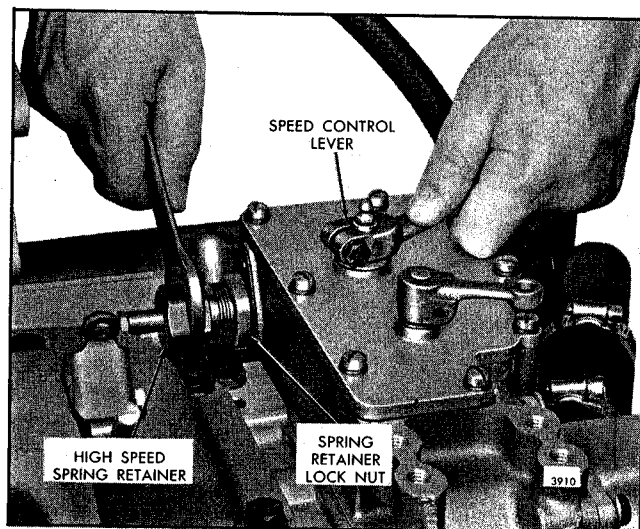

Fig. 20 - Adjusting Maximum No-Load Engine Speed
2. With the engine at operating temperature and no-load on the engine, place the speed control lever in the maximum speed position. Turn the high speed spring retainer in (Fig. 20) until the engine is operating at the recommended no-load speed. Use an accurate tachometer to determine the engine speed. The recommended speed droop is 150 rpm for governors with a full-speed range of 2500-2800 rpm.